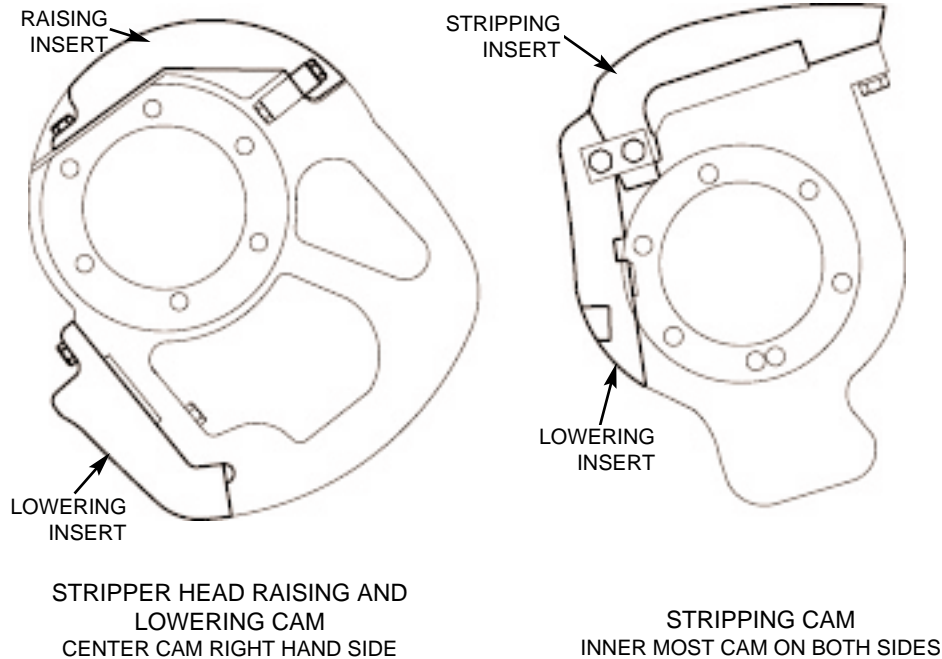

Figure 4.39 REMOVING STRIPPING CAM INSERTS.
4.3.3 Remove the stripping cam insert from each side of the machine. This concrete unit is run without any stripping cam insert (see figure 4.39).